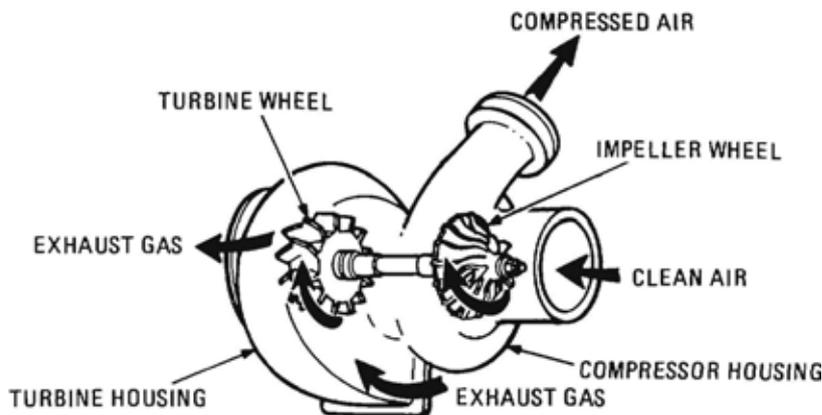

Figure 35 Turbocharger Operation
50. A Garret AiResearch TV63 series turbocharger is fitted to the vehicle. It is made up of three main components: the turbine, the bearing housing and the compressor. The turbocharger is mounted on the exhaust manifold and uses exhaust gas energy, which is normally discharged to the atmosphere. The exhaust gas enters the turbine housing and flows around and radially inward causing the turbine wheel to rotate. The exhaust gas is then discharged through the centre of the turbine housing into the exhaust system (Figure 35).